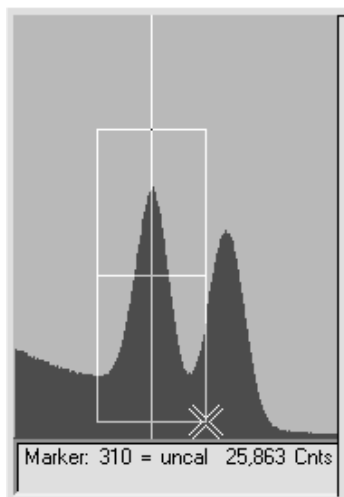

Figure 13. The Rubber Rectangle's Crosshairs.
- 2) Drag the mouse diagonally across the area of interest. A reverse-color rectangle bisected by the marker line is drawn. Note that when drawing a rubber rectangle, the marker line combines with a horizontal line inside the rectangle to form crosshairs (Fig. 13).